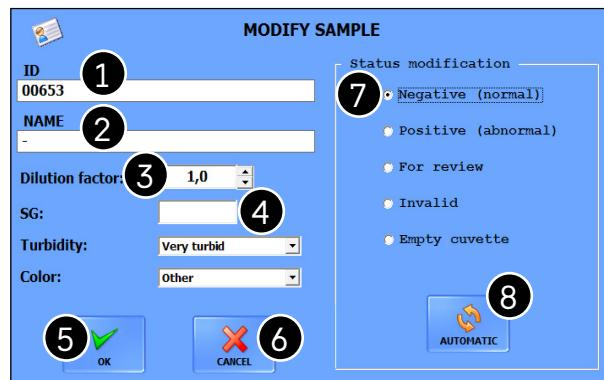

Figure 5: The Modify Sample dialog box (for a sample with both routine and microscopy urinalysis results)
- ▶ if the status of the sample is manually set to invalid (see Figure 5 and its key);
- ▶ zeros (0) are displayed in all of the value fields and **N/A** is displayed in all of the Category fields unless you modify these fields manually (3.5.1.1 Modifying semiquantitative relative categories on page 27);
Click to modify status of the selected sample or the ID or patient name associated with the record using a dialog box (see Figure 5).
Click to edit the details of the selected worklist element (see Figure 5 and its key).